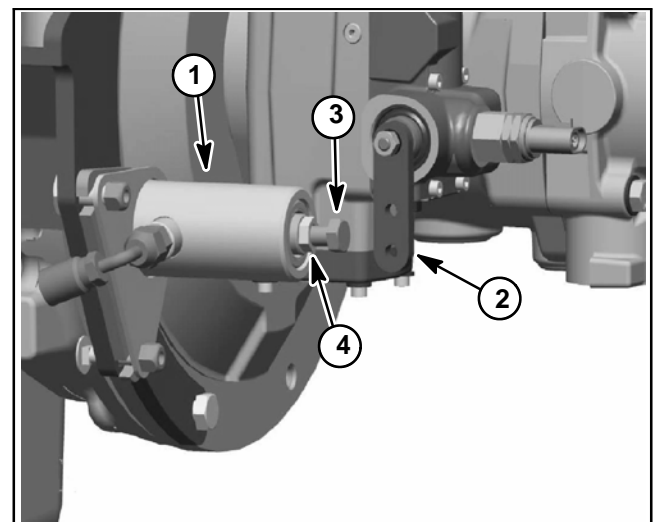

Figure 57
6. Adjust the transport cylinder as follows (Fig. 57):